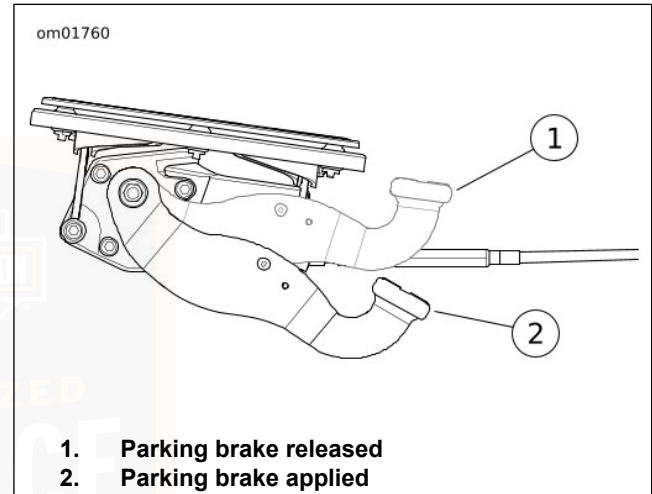

Figure 21. Parking Brake
See Figure 21. The parking brake pedal is on the left side of vehicle. The parking brake mechanically engages brakes for both rear wheels preventing the vehicle from rolling when parked. The parking brake indicator lamp turns on when the parking brake is applied.
4. See Figure 21. With the left foot, firmly push down the parking brake pedal until it cannot be pushed any further.
2. See Figure 21. With the left foot, firmly press the parking brake pedal and release. The parking brake returns to the released position.